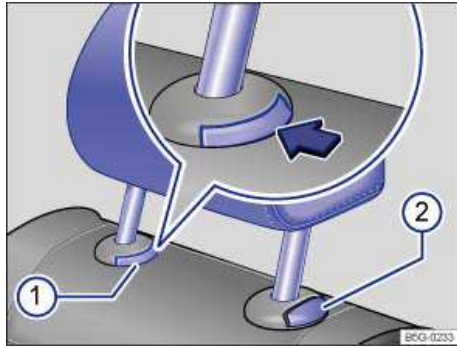
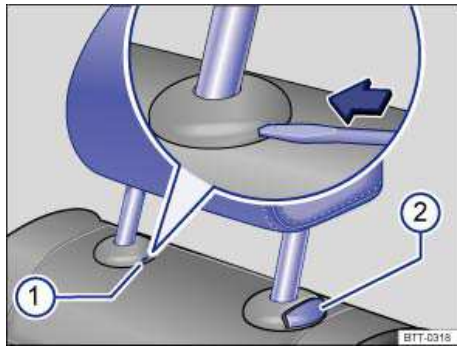

Fig. 40 Removing the rear head restraint (version A).
Fig. 41 Removing the rear head restraint (version B).
- Push button ⇒ fig. 40 (1) in the direction of the arrow and hold it in this position.
- At the same time press button (2) while a second person pulls out the head restraint completely.
- If necessary, press the flat blade of the screwdriver from the vehicle tool kit into the slit of the trim cap ⇒ fig. 41 \(2\) in the direction of the arrow and hold it in this position.
- Push the head restraint down while pressing button ⇒ fig. 40 \(2\) or ⇒ fig. 41 \(2\).